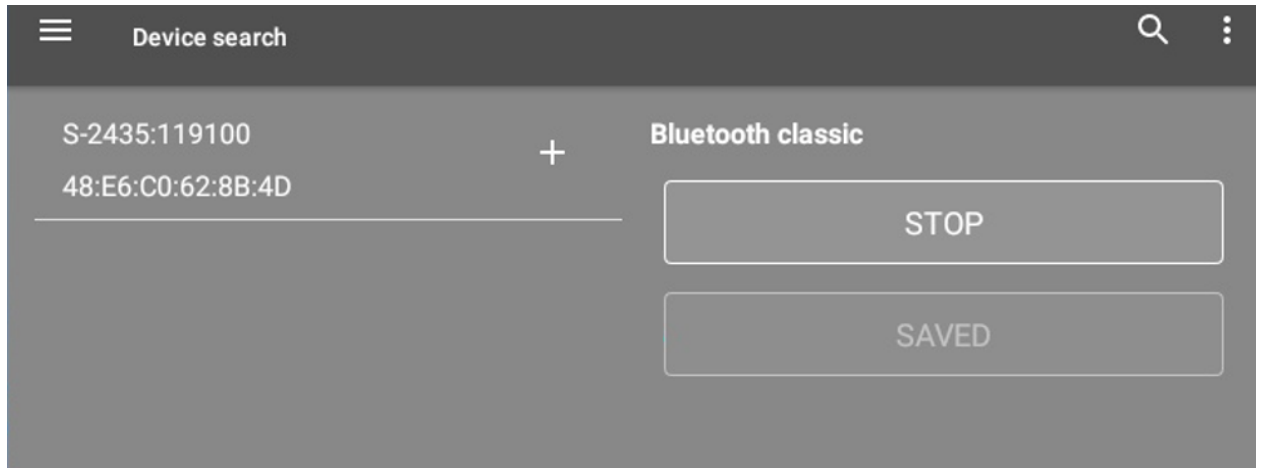

fig.3.4. Bluetooth device search
- 3) Enter «Data scanning – Device search» menu and find GPS trackers nearby with Bluetooth ON (fig.3.4).